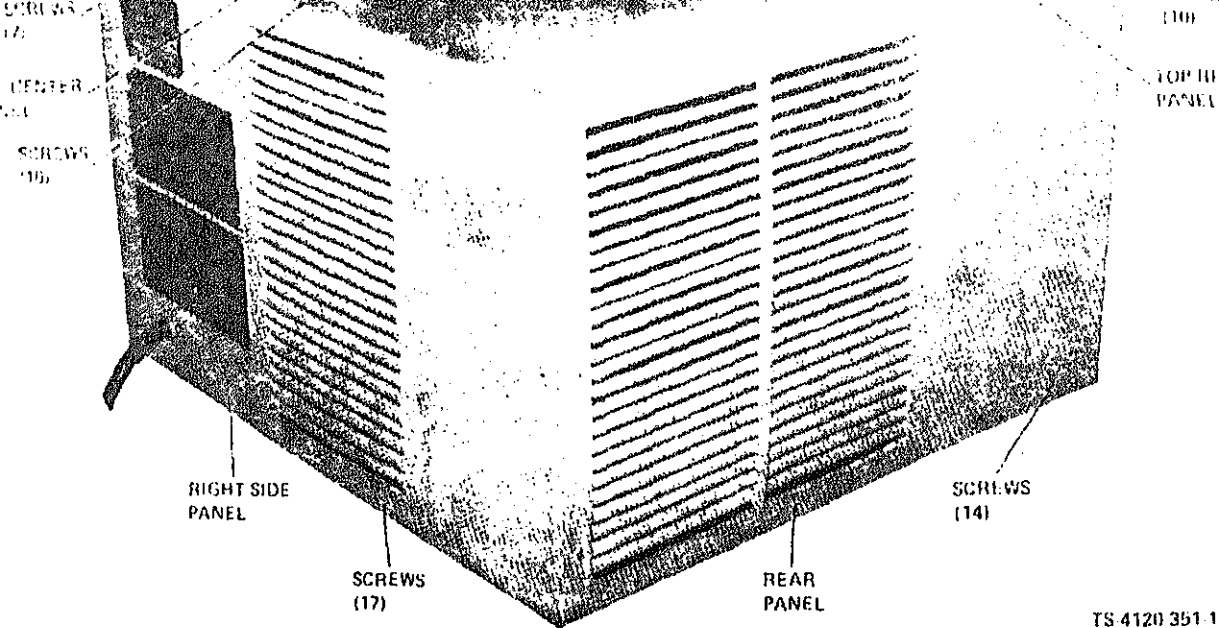

Figure 4-3. Top, rear and right side panels, removal and installation.
- (1) Remove right side panel (fig. 4-3) by removing 17 screws.
- (2) Loosen mechanical screw post at rear of return air grill and remove wire.
- (1) Install return air grill and secure with eight screws.
- (2) Install wire in mechanical screw post and then tighten mechanical screw post.
- (3) Install right side panel (fig. 4-3) and secure with 17 screws.
a. Removal. Remove right side panel (fig. 4-3) by removing 17 screws.
(1) Remove right side panel (fig. 4-3) by removing 17 screws.
(2) Loosen mechanical screw post at rear of return air grill and remove wire.
(1) Install front panel and secure with 14 screws.
(2) Install control panel plate and secure with two screws.
(3) Install knobs on thermostat switch, selector switch and fresh air control and tighten set-screws.
(4) Install return air grill and secure with eight screws.
(5) Install wire in mechanical screw post and tighten mechanical screw post.
(6) Install right side panel (fig. 4-3) and secure with 17 screws.
(1) Remove top center panel (fig. 4-3) by removing ten screws.
(2) Remove top front panel by removing seven screws.
(1) Install top front panel and secure with seven screws.
(2) Install top center panel and secure with ten screws.
a. Removal. Remove top center panel (fig. 4-3) by removing ten screws.
(2) Remove top rear panel by removing ten screws.
a. Removal. Remove rear panel (fig. 4-3) by removing 14 screws.
a. Removal. Remove left side panel (fig. 4-3) by removing 17 screws.
(11) Install top center panel (fig. 4-3) and